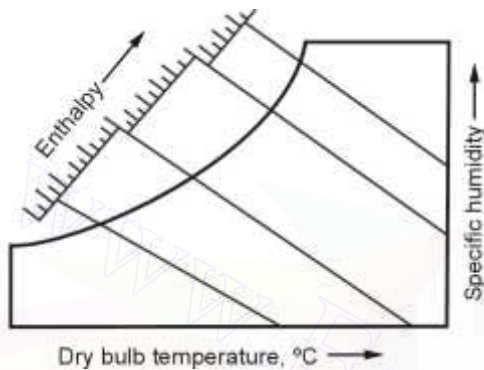

Fig. 5.62 : Enthalpy lines
- These lines are inclined straight lines and uniformly spaced as shown in Fig. 5.62.